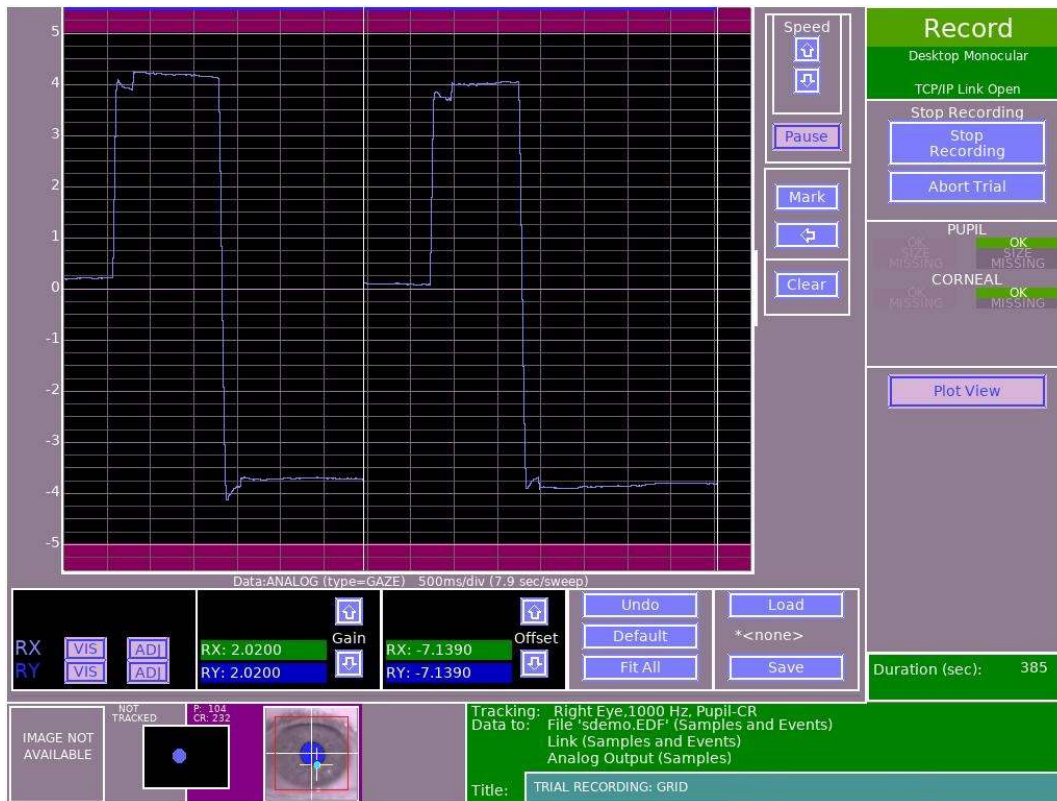

Figure 2-12: Gain/Offset Adjustments in the Plot View
The top of the Plot View shows the data type being plotted. The “Gaze” option plots the participant's gaze position in pixel (x, y) display coordinates. The “Angle” option plots the amount of x, y eye angle in degrees relative to the center of the screen. The “HREF” option plots eye rotation angles relative to the head in HREF coordinate (see Section 4.4.2.2 “HREF”). The “Raw” option plots the raw (x, y) coordinate pairs from the camera. The “Analog” option plots the x, y coordinate in voltages as done with the analog card output. The top-right lists the speed of plotting (i.e., amount of data being plotted in each screen). Figure 2-12 provides an example recording screen with a plotting speed of 7.9-seconds per sweep (each horizontal division represents 500-ms worth of data).
- 8) Now your “calibration” is done. Click on the “Pause” button to continue recording (see Figure 2-12 for an example of testing the “calibration” accuracy).